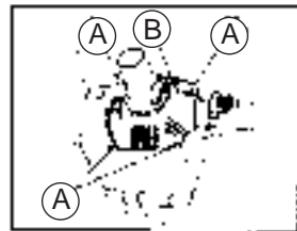

Fig. 1
Laguna Utility Pumps 4, 5, 6 and 7: Use a Phillips (cross headed) Screwdriver to remove four screws (A) that are attached to the motor cover (B). (Fig. 1)